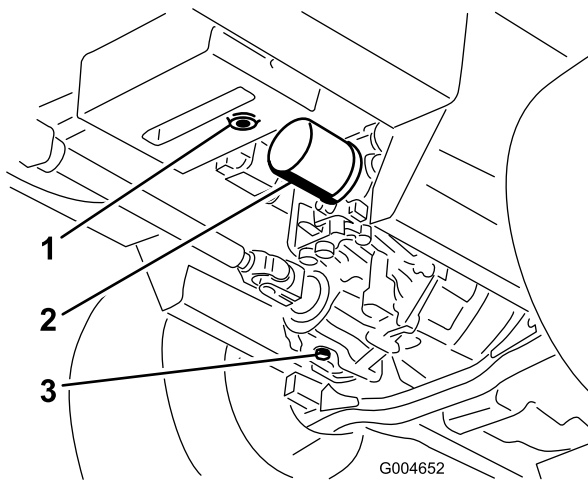

Figure 69
3. Place a large pan under the hydraulic reservoir and transmission case and remove the plugs, draining all of the hydraulic fluid (Figure 69).
4. Clean the area around the hydraulic oil filter and remove it (Figure 69).